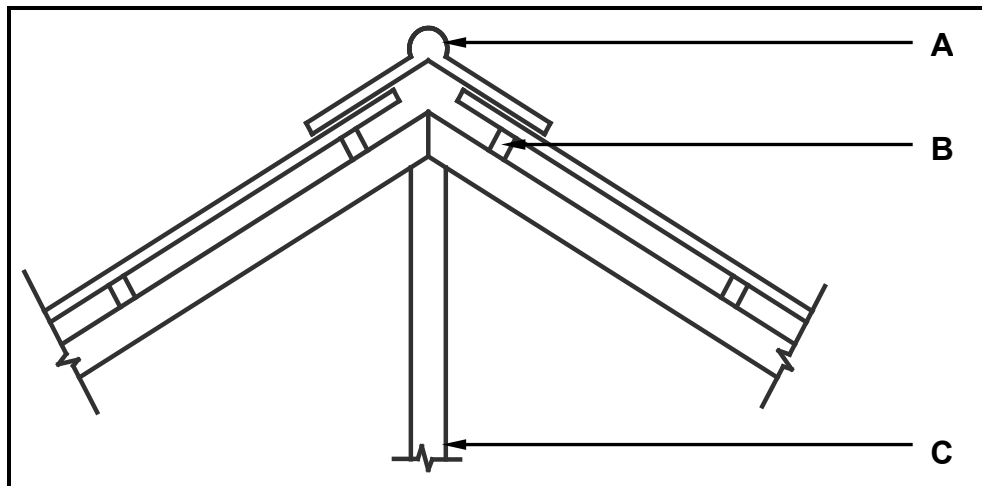

FIGURE 4.6
- 4.6 FIGURE 4.6 below shows the top view of a roof layout showing roof trusses and outer walls of L-shaped building. Analyse the illustration and answer the questions that follow.